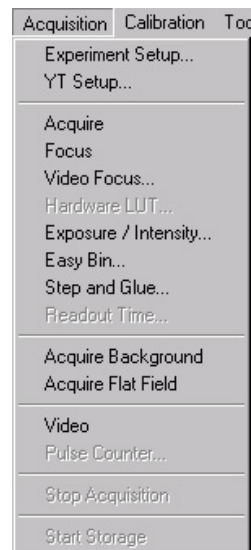

Figure 38. Acquisition menu
1. Select **Focus** from the **Acquisition** menu (Figure 38) to begin collecting data. An acquisition can also be started by clicking on the **Focus** button in the Experiment Setup dialog or by clicking on the **Focus** button on the **Custom Toolbar**. Data will be continuously acquired and displayed.